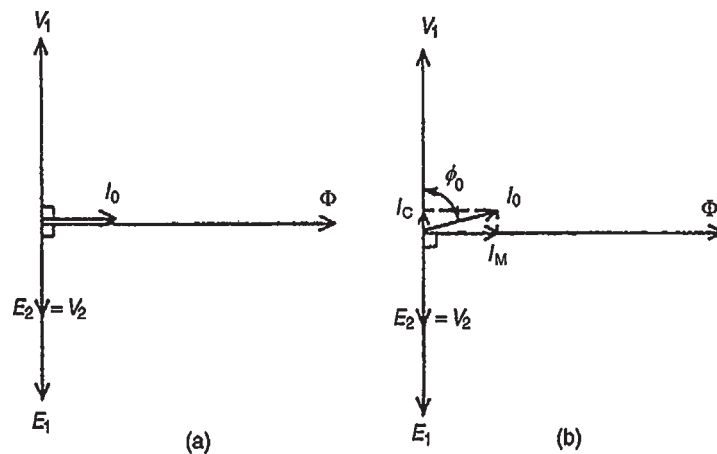

Figure 24.3
The core flux is common to both primary and secondary windings in a transformer and is thus taken as the reference phasor in a phasor diagram. On no-load the primary winding takes a small no-load current I_0 and since, with losses neglected, the primary winding is a pure inductor, this current lags the applied voltage V_1 by 90° . In the phasor diagram, assuming no losses, shown in Fig. 24.3(a), current I_0 produces the flux and is drawn in phase with the flux. The primary induced e.m.f. E_1 is in phase opposition to V_1 (by Lenz's law) and is shown 180° out of phase with V_1 and equal in magnitude. The secondary induced e.m.f. is shown for a 2:1 turns ratio transformer.
A no-load phasor diagram for a practical transformer is shown in Fig. 24.3(b). If current flows then losses will occur. When losses are considered then the no-load current I_0 is the phasor sum of two components – (i) I_M , the magnetising component, in phase with the flux, and (ii) I_C , the core loss component (supplying the hysteresis and eddy current losses). From Fig. 24.3(b):
- (c) From the right-angled triangle in Fig. 24.3(b) and using Pythagoras' theorem, $I_0^2 = I_C^2 + I_M^2$ from which, magnetising current,